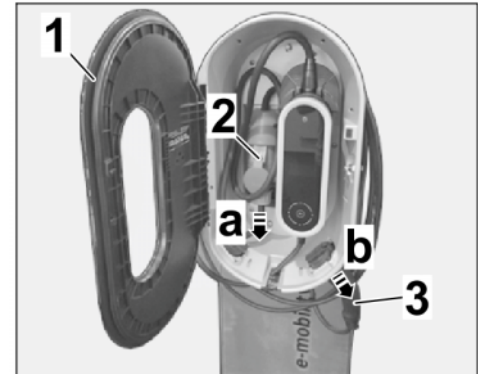

Figure 3
1.2.2 Disconnect power cable ⇒ *Figure 3-2-* from the electrical socket ⇒ *Figure 3-a-*.
Disconnect vehicle plug ⇒ *Figure 3-3-* from holder ⇒ *Figure 3-b-*.